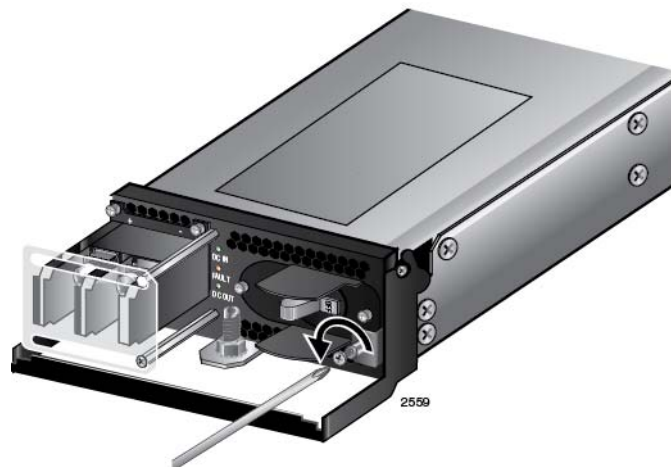

Figure 58. Loosening the Handle locking Screw on the AT-SBxPWRSYS1 DC System Power Supply
5. With a #2 Phillips-head screwdriver, loosen the handle locking screw on the power supply, as shown in Figure 58.